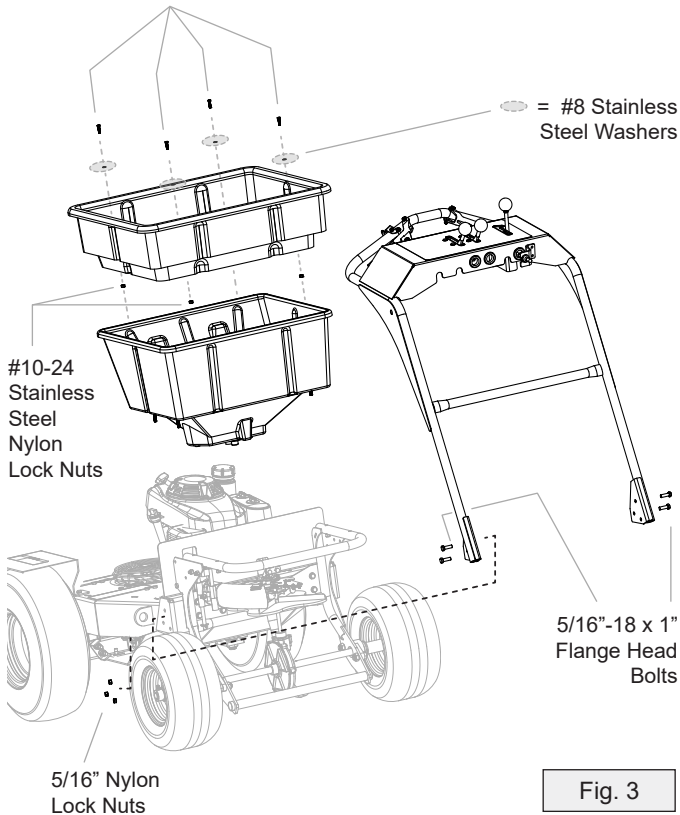

Fig. 3
6. Reinstall the handlebar assembly on the spreader with six 5/16"-18 x 1.00 hex head bolts and 5/16" nylon lock nuts as shown in Figure 3. Hardware is located in the manual bag.
7. Install the hopper extension with four #10-24 x .75 stainless steel pan head screws, four #8 washers, and four stainless steel #10-24 nylon lock nuts as shown in Figure 3. *Hardware is taped to the inside wall of the hopper extension.*